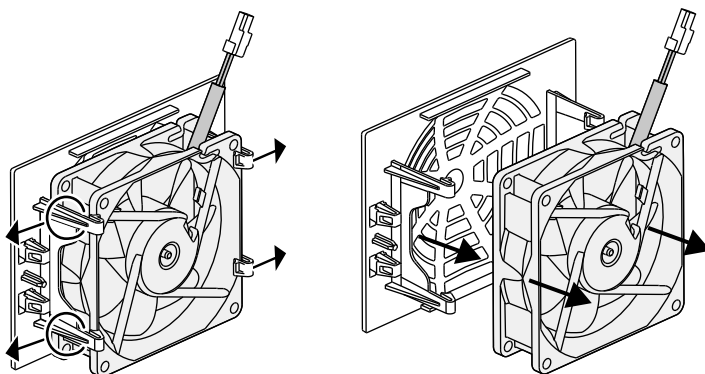

Fig. 63: Disassembly of the fan grill
5. The fan can also be pulled off the fan grill. To do this, press the fastening straps slightly outward and pull off the fan. ➤ Fig. 63